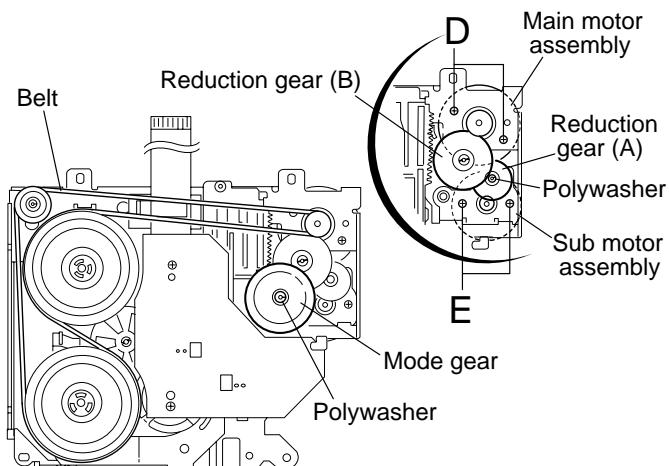

Fig.40
■Removing the main motor assembly / sub motor assembly (See Fig.40 to 42)
3. Pull out the reduction gear (B).
4. Remove the polywasher and pull out the reduction gear (A).